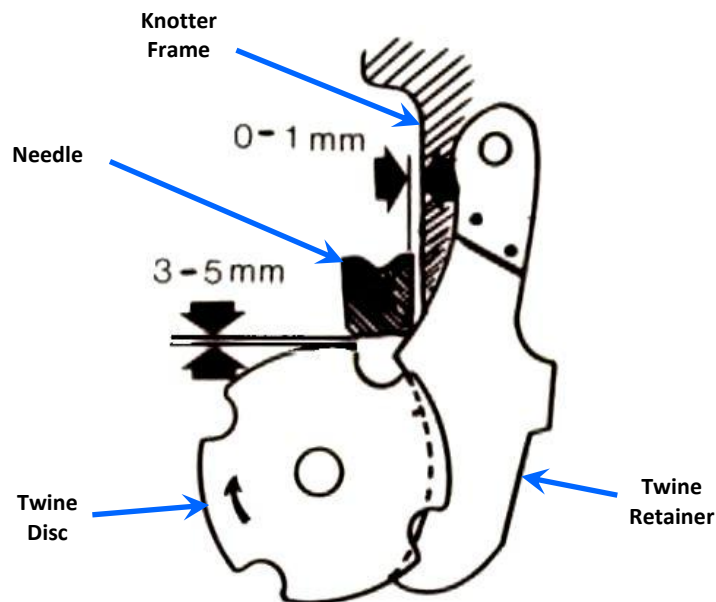

Fig.5.18 Ideal positioning of Needle in relation to Knotter Unit:
- Is the Needle – Twine Disc clearance sufficient? (*Fig.5.18*)